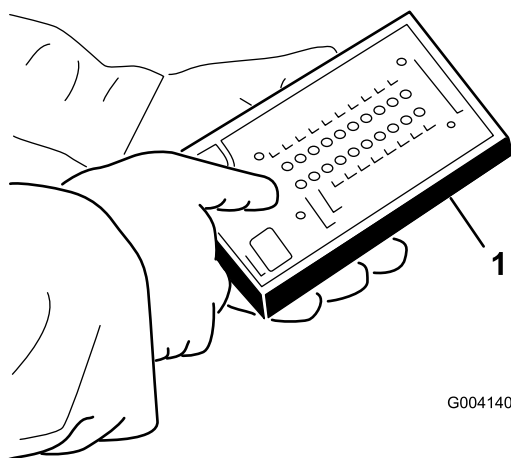

Figure 25
5. Connect the Diagnostic ACE display connector to the harness connector (Figure 25).